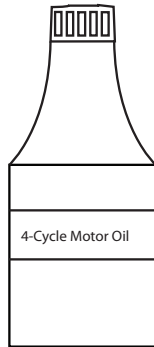

Fig. 5
Your unit is supplied with one 2.5 fluid oz. (75 mL) bottle of SAE 10W- 30 SF, SG or SH oil (Fig. 5).
1. Unscrew the top of the bottle of oil and remove the paper seal covering the opening. Replace the top. (Fig. 5).